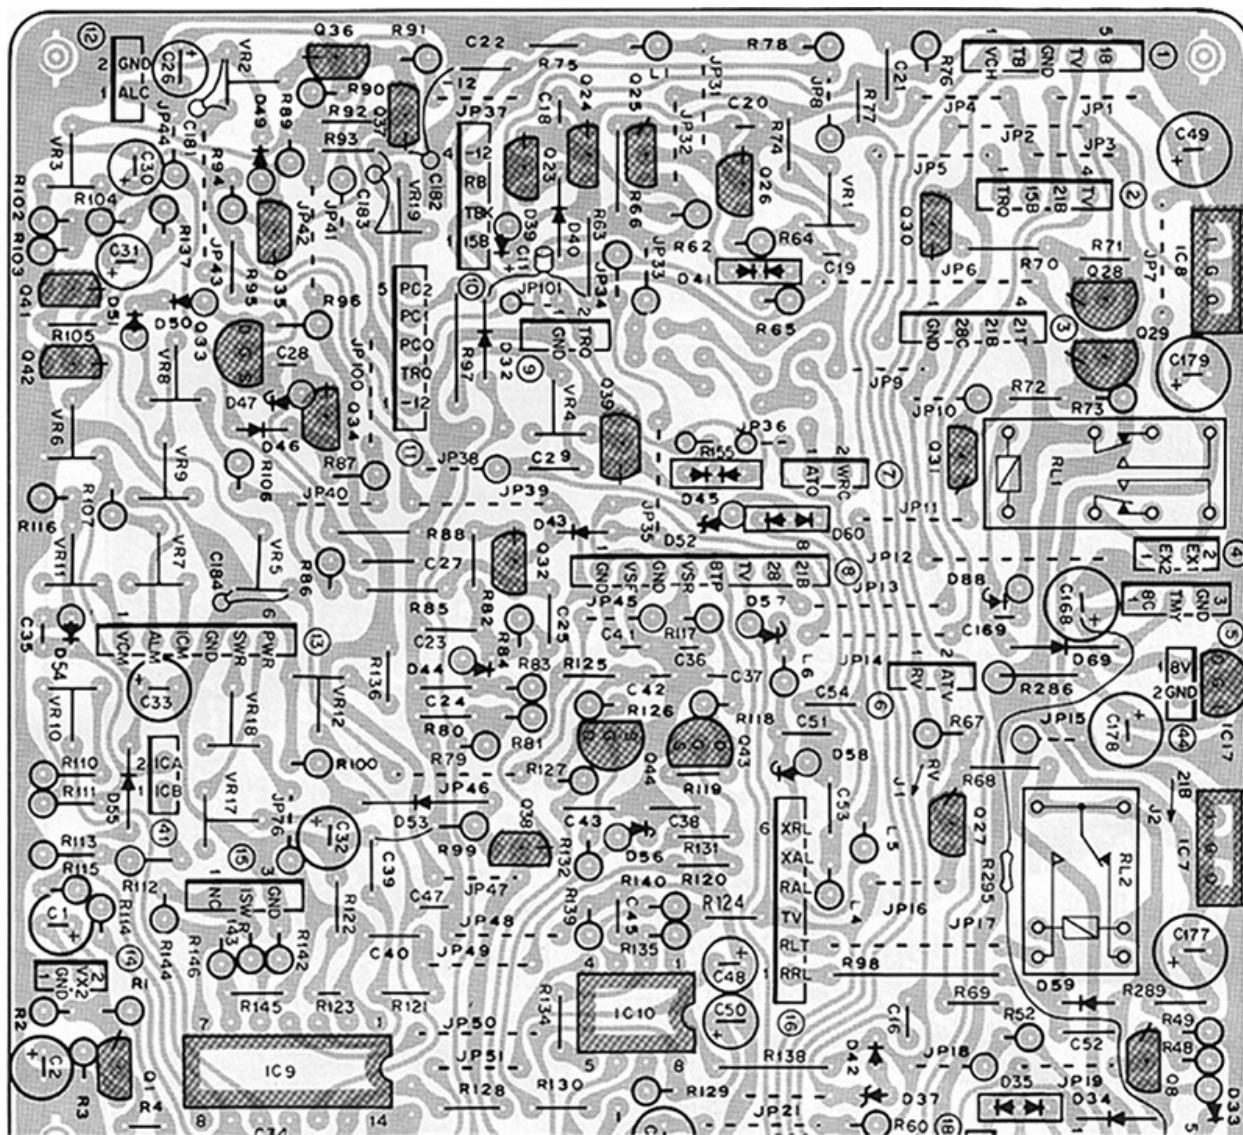

FIGURE 8-3 Pictorial diagram.
- *Pictorial diagram.* This uses drawings of the parts and shows their interconnections. The pictorials included in service manuals are really layout diagrams detailing the placement of components as they exist on circuit boards and chassis. This is the drawing of landmarks and where to find them (Figure 8-3).